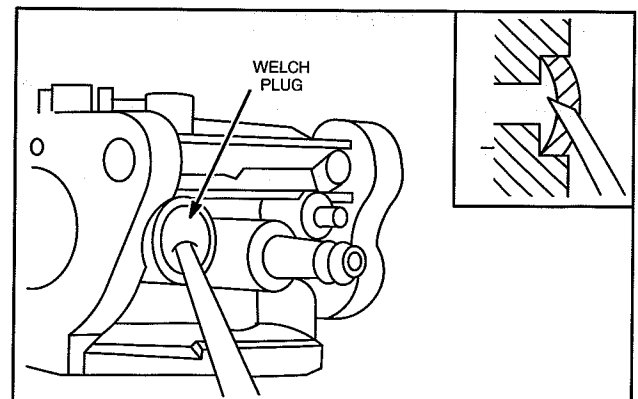

Fig. 11 – Remove Welch Plug
9. Use a punch as shown and remove throttle shaft welch plug, Fig. 11.